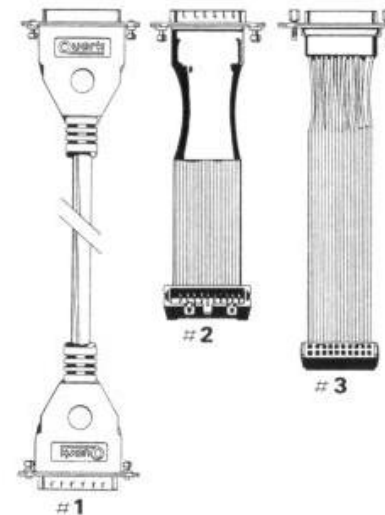

Figure 2-1. Supplied Interface Cables
The hardware installation of your QC hard disk drive basically consists of connecting the disk to your computer's floppy diskette port using one or more of the supplied interface cables shown in Figure 2-1, and providing a power source to the unit.
- The Quark cable labeled "#1" in Figure 2-1.
- Interface cables labeled "#2" and "#3" in Figure 2-1.
6. We will now attach the "D"-shaped connector on the interface cable labeled "#2" in Figure 2-1 to the back panel opening nearest the disk controller card in your computer. Note that the nearest opening that will accommodate this connector is labeled "4" on the back of your computer. Before you can attach the connector, you must remove the protective plastic cover plate from the opening by reaching inside the computer and pushing down and out on the tab on the back of the plate.
13. Push the rectangular plug on your Disk II floppy diskette drive into the rectangular socket of the interface cable labeled "#3" in Figure 2-1. Connect the "D"-shaped connector on the other end of this cable to the nineteen-hole "D"-shaped socket labeled "Disk" on the back of the QC hard disk. Tighten the screws.